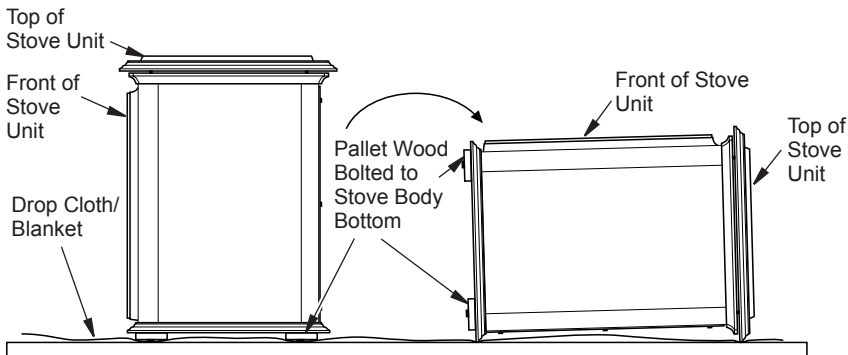

Figure 6 - Laying Down Stove On Side (Stove Style May Vary Depending on Model)
- (1) - Hardware kit bag with fasteners
6. Carefully lay stove body on back to attach bottom components to stove body (see Figure 6). Rest stove on drop cloth or blanket to avoid scratching stove edges.